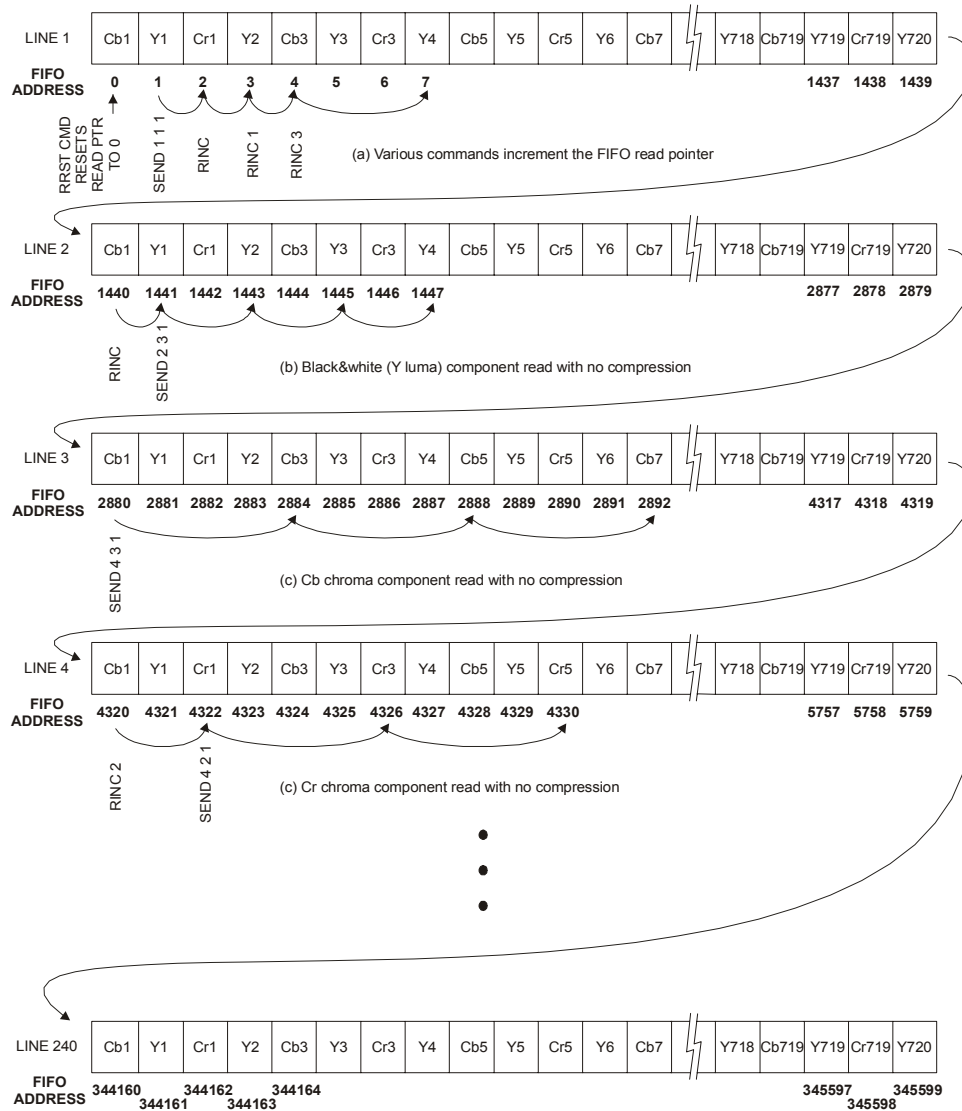

Figure 9: Internal layout of the uCFG's FIFO field buffer
Figure 9 shows the physical layout of the uCFG's internal FIFO buffer. As shown, the FIFO is a byte-wide uninterrupted memory buffer accessible with the help of a read pointer (used to index the memory location to read). For simplicity, the FIFO in Figure 9 has been split up into separate video lines even though all the data is actually continuous inside the FIFO. As can be seen, one line (720 pixels wide) of video data actually occupies 1440 bytes of physical FIFO space. Note that every second luma (Y) sample is surrounded by its chroma (Cb, and Cr) color components which are co-sited in space (i.e. belong to the same pixel). Every other luma sample is alone (due to the 4:2:2 chroma decimation).
The host controller is in full control of the FIFO access operations and readout. In fact, the host is responsible for issuing the appropriate commands to skip data samples when it requires image decimation. A number of example commands are illustrated in Figure 9 as well as their effect on the read pointer. (a) Different commands increment the read pointer directly. Rrst resets the pointer to 0, the start of the FIFO. SEND 1 1 1 simply reads the current byte and increments the pointer by 1. RINC with no parameters assumes 1 by default and increments the pointer. RINC with parameters increments the pointer by the specified amount. (b) To download a black & white image only (the luma component of the color image) at the full 720 resolution, simply position the read pointer on the first luma sample of interest with RINC and issue a SEND 2 n 1 where n is the number of bytes to read. Here the command will read and return every 2nd sample until a total of n bytes have been returned on the serial port. To read a ½ decimated version, use the SEND 4 n 1 which skips every 2nd luma (i.e. return every 4th sample). The possibilities are quite numerous. (c) & (d) Illustrates color component download. Simply position the pointer to the appropriate starting position and issue a SEND 4 n 1 to read out every 4th sample.